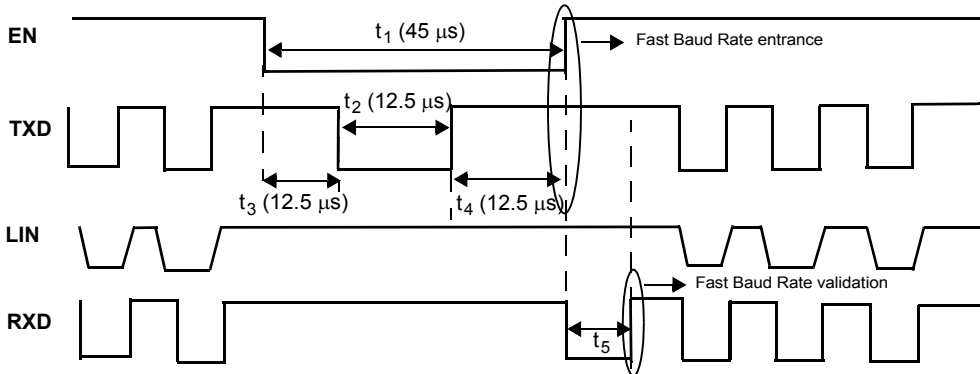

Figure 19. Fast Baud Rate Selection (Toggle Function) for LIN1 or LIN2
30. See Figures 19 and 20
For each LIN Module, the Fast Baud Rate selection is reported by the RXD pin. Fast Baud Rate is activated by the toggle function (See Figure 19). At the end of the toggle function, just after EN rising edge, RXD pin is kept low for  $t_5$  to flag the Fast Baud Rate entry (See Figure 19).
A combination of the logic levels on EN1 (EN2) and TXD1 (TXD2) pins allows the device to enter in Fast Baud Rate mode of operation (see Figure 19).
The LIN Module enters into the fast baud rate if the delay between step 1 to step 5 is 45  $\mu$ s maximum. The toggle function is described in Figures 19. Once in fast baud rate, the same toggle function just described previously is used to bring the LIN Module 1 back into normal baud rate.
Fast baud rate selection is reported to the MCU by the RXD1 pin. Once the LIN Module 1 enters in this fast baud rate, the RXD1 pin goes at low level for  $t_{\text{S}}$ . When LIN Module 1 returns to normal baud rate with the same toggle function, the RXD1 pin stays high. Both sequences are illustrated in Figures 19 and 20.